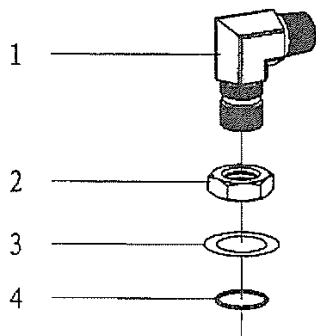

Fig18.
8.8.5 Bend adaptor(1 5/16-12UN) (Fig18. Table18)